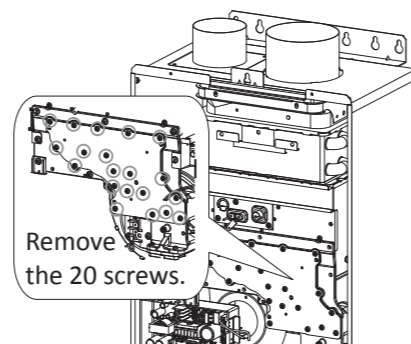

Figure 1
- Use a Phillips screwdriver to remove **the 20 screws** on the manifold plate shown in Figure 1.
- After making sure that the manifold nozzles are secure, install the manifold cover using the 20 screws that were removed during step 5. See Figure 1.